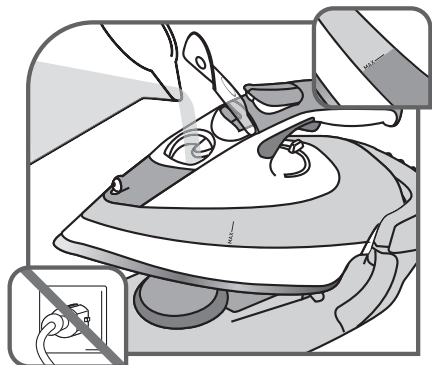

Fig.5
- Open the tank filling flap and fill the tank up to “MAX” – **fig.5**.